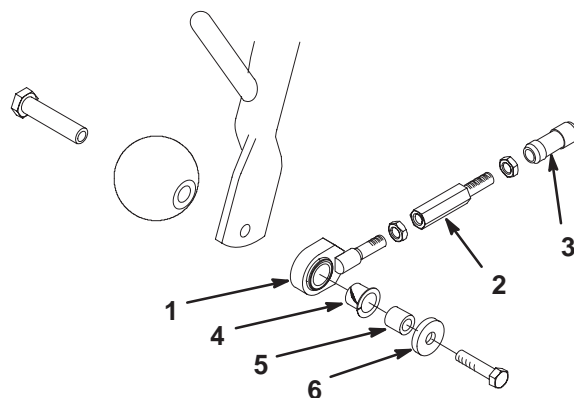

Figure 7
1. Mount an anti-scalp roller and a pull link assembly to the outer end of each front carrier frame with a roller shaft, spacer, washer, and screw (Fig. 7). Make sure the nylon bushing is in the pull link.